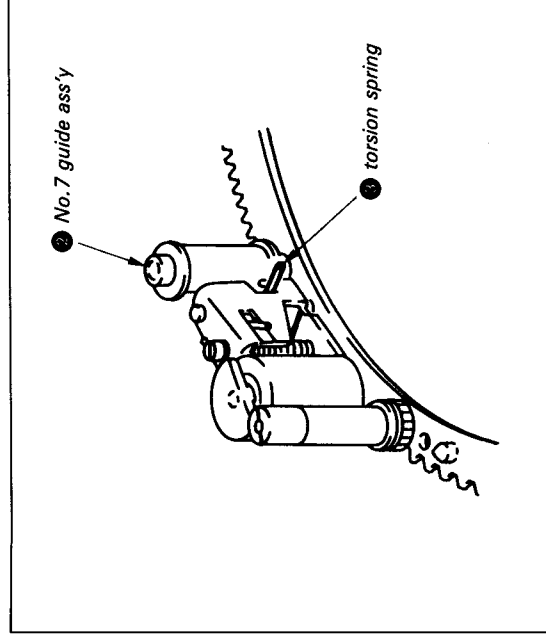

Fig. 7-15
- 3) Change the position of the torsion spring ③ on No. 7 guide assembly ②. (See Fig. 7-15.)